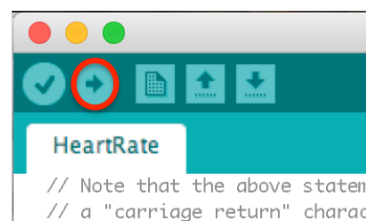

Figure 2. Arduino screenshot.
5. Upload the code to the Arduino by hitting the upload button (Figure 2 – red circle).